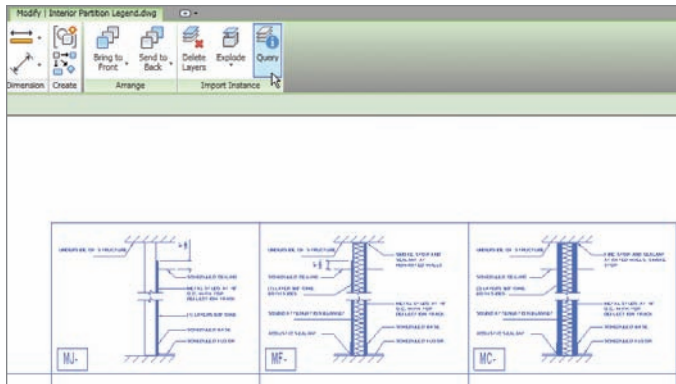

FIGURE 11.56 Clicking the Query button on the Import Instance panel
3. On the Import Instance panel, click the Query button, as shown in Figure 11.56.
4. Select the line shown in Figure 11.56.